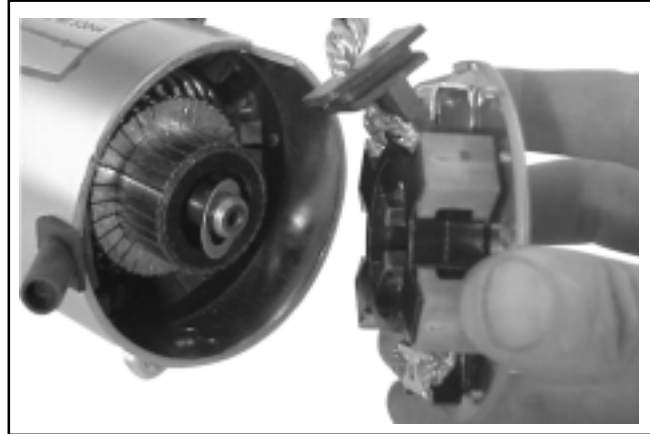

Figure 8-42. Removing Commutator End Plate Assembly.
5. Remove the commutator end plate assembly, containing the brush holder, brushes, springs, and locking caps. Remove the thrust washer from inside the commutator end. See Figure 8-42.